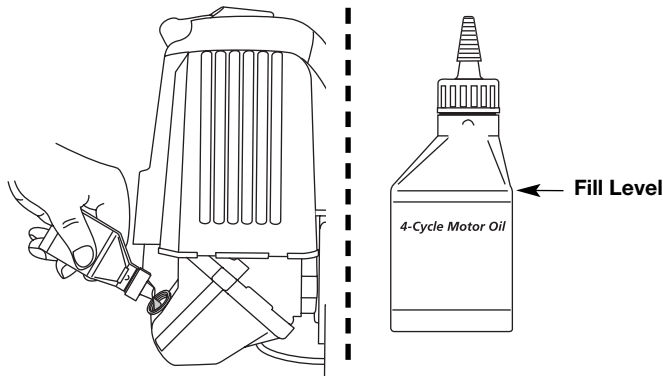

Fig. 27
**NOTE:** Use the bottle and spout saved from initial use to measure the correct amount of oil. The top of the label on the bottle measures approximately 3.04 ounces (90 ml) (Fig. 27). Check the level with the dipstick. If the level is low, add a small amount of oil and recheck. Do not overfill (Fig. 27).